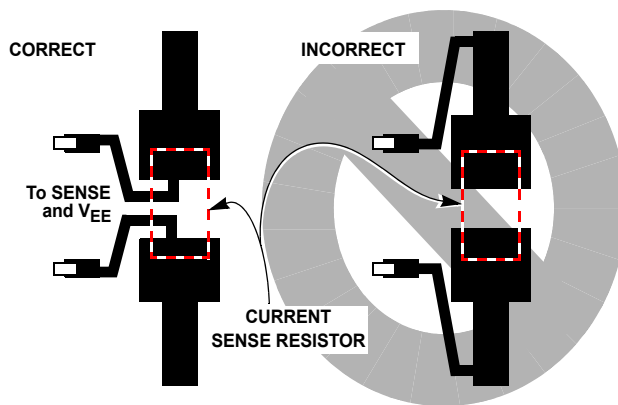

FIGURE 24. SENSE RESISTOR LAYOUT GUIDELINES
**Physical layout of R1 SENSE resistor** is critical to avoid the possibility of false over current events. Since it is in the main input-to-output path, the traces should be wide enough to support both the normal current, and up to the over-current trip point. Ideally trace routing between the R1 resistor and the ISL6141/51 (pin 4 ( $V_{\text{EE}}$ ) and pin 5 (SENSE)) is direct and as short as possible with zero current in the sense lines. (See Figure 24).